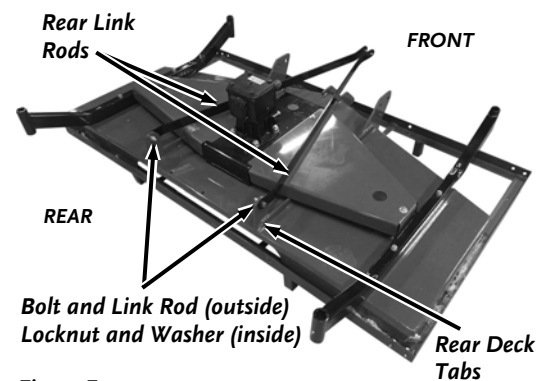

Figure 7
2. Loosely install the two Rear Link Rods on the **outside** of the Rear Deck Tabs with a M12X30 Bolt (#40841), M12 Plain Washer and M12 Locknut using a 18mm Wrench on the Bolt and a 19mm Wrench on the Locknut (**Figure 7**).